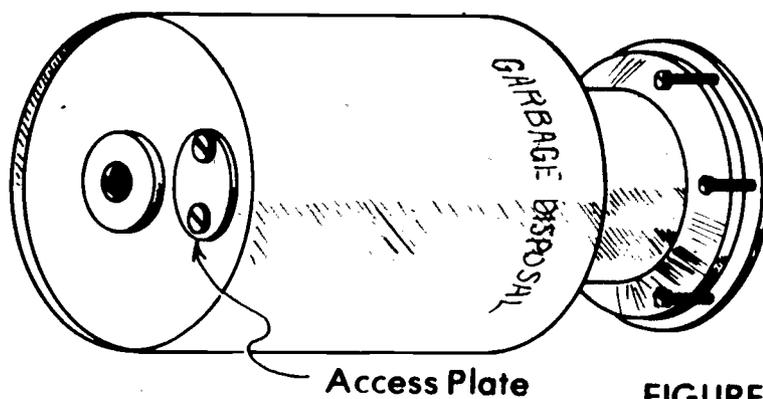

FIGURE 1
- D. Remove access plate from appliance (Figure 1)